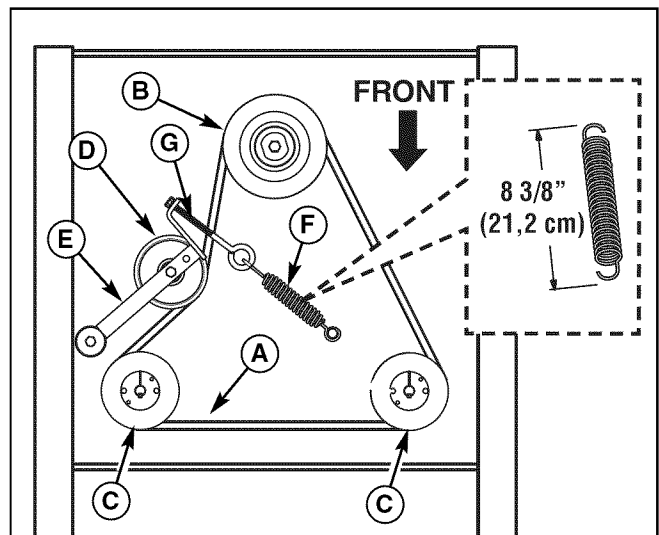

Figure 44. Hydraulic Pump Drive Belt Replacement
4. Loosen the nut on the spring anchor eyebolt (G, Figure 44) to release the majority of the belt tension. Use caution and remove the nut to completely release the tension.
6. Reinstall the spring anchor eyebolt (G) into the anchor tab and loosely fasten the nut. Adjust the anchor eyebolt until a measurement of 8-3/8" (21,2 cm) is achieved from the outside of the spring hooks. Tighten nut.